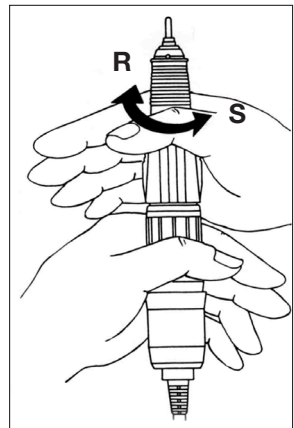

Fig. 3
1. Turn the Collet Release Ring* to the “R” release position until a “click” is heard (Fig. 3).